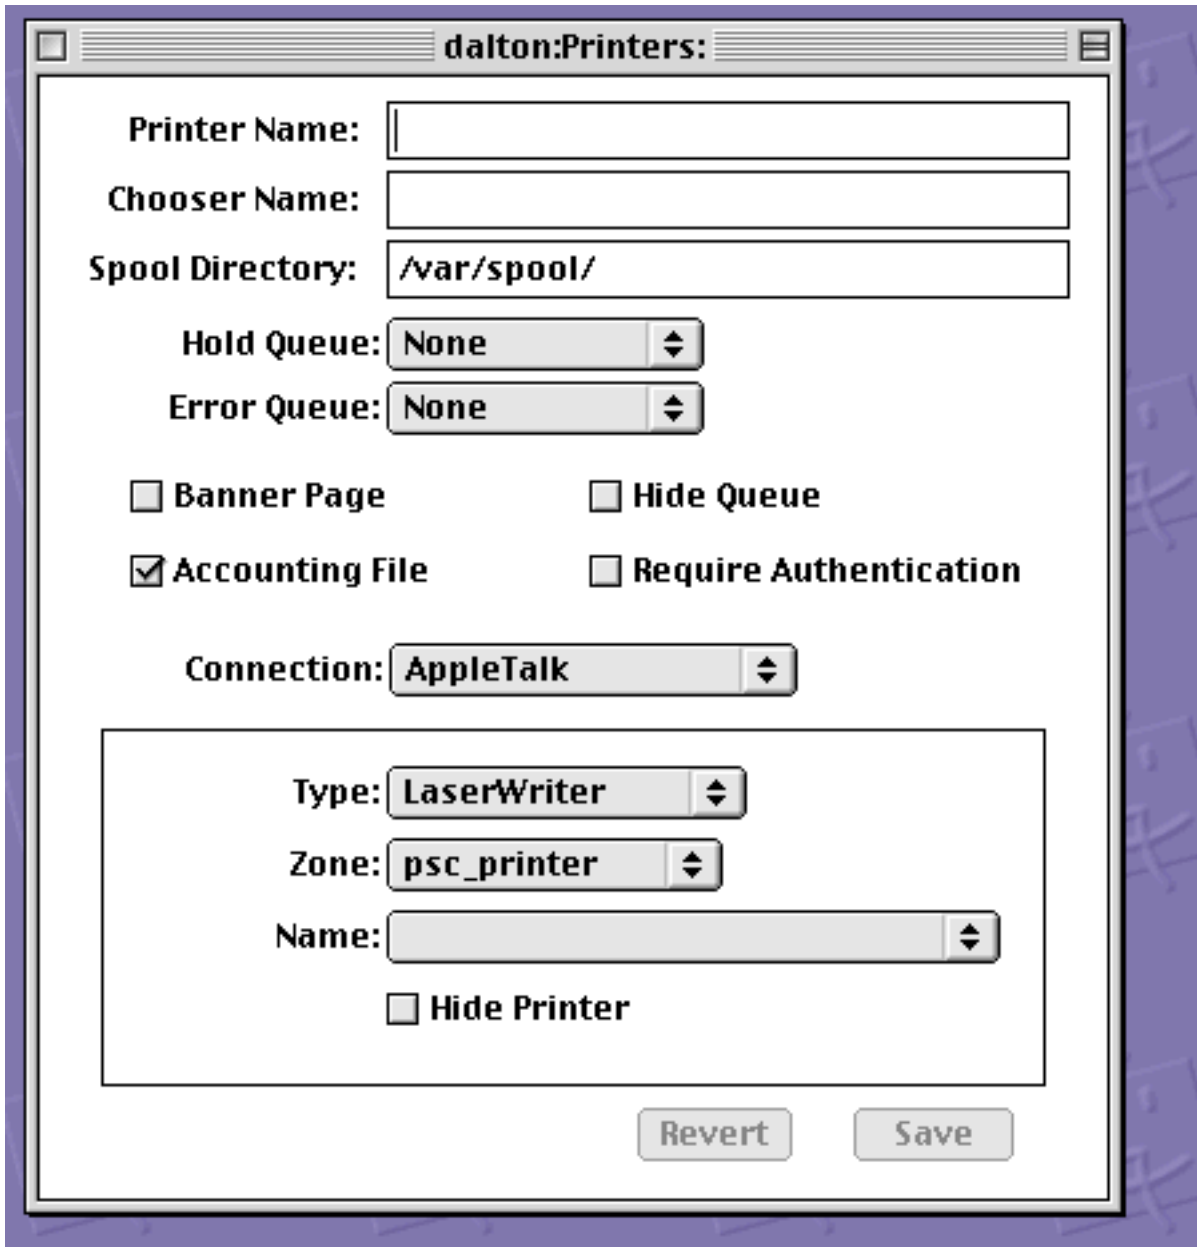

Figure 35. Print Queue window
4. From the window (displayed in Figure 35 on page 146, select a name for the printer and save the results.
where *queuename* represents the printer queue you created in Figure 35 on page 146 and *file.ps* is the name of the PostScript output file that resulted when you specified Print to File from your layout application.